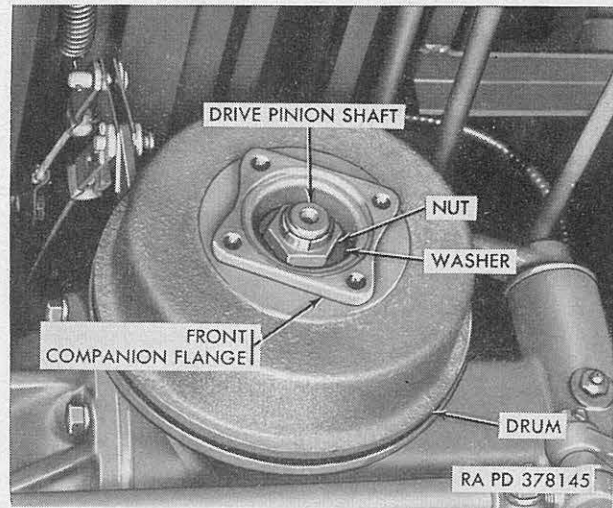

Figure 74. Brake with propeller shaft removed.
- (2) Unscrew hex nut (fig. 74) from rear end of drive gearshaft and remove plain washer. Pull brakedrum and front companion flange off shaft of drive gear and separate drum and flange.
- (5) Push front companion flange (fig. 74) into brakedrum from rear face, and slide drum and flange over brake band and onto drive gearshaft. Secure flange with plain washer and hex self-locking nut on end of shaft.